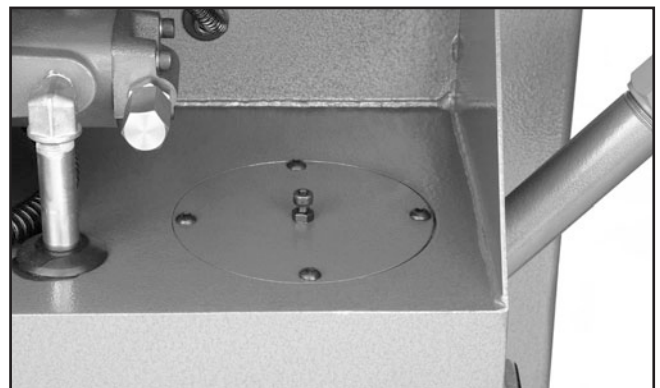

Figure 104. Tank access plate.
2. Using a 4mm hex wrench, remove the four access cover cap screws (**Figure 104**), and then the cover.